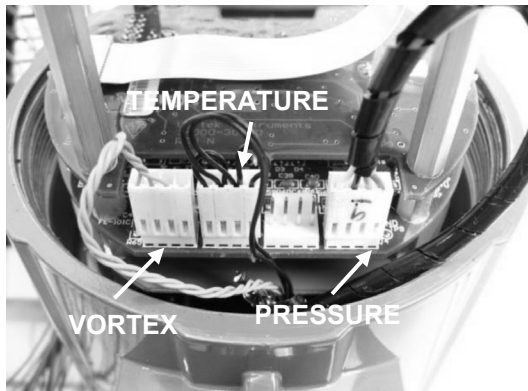

Figure 103 - Electronic Stack Sensor Connections
Using ESD precautions and hazardous area precautions, remove the electronics enclosure window cover. Disconnect the sensor connectors from the electronic stack or remote feedthrough board. Refer to Figures 103 or 104.
3. Locate the sensor harnesses which come up from the neck of the flow meter and attaches to the circuit boards. Make note of the location of each sensor connection. Refer to figures 103 and 104. The vortex sensor connection is on the left, the temperature sensor connection (if present) is second from the left, and the pressure sensor connection (if present) is the right most connector. Use small pliers to pull the sensor wiring connectors off of the circuit boards.